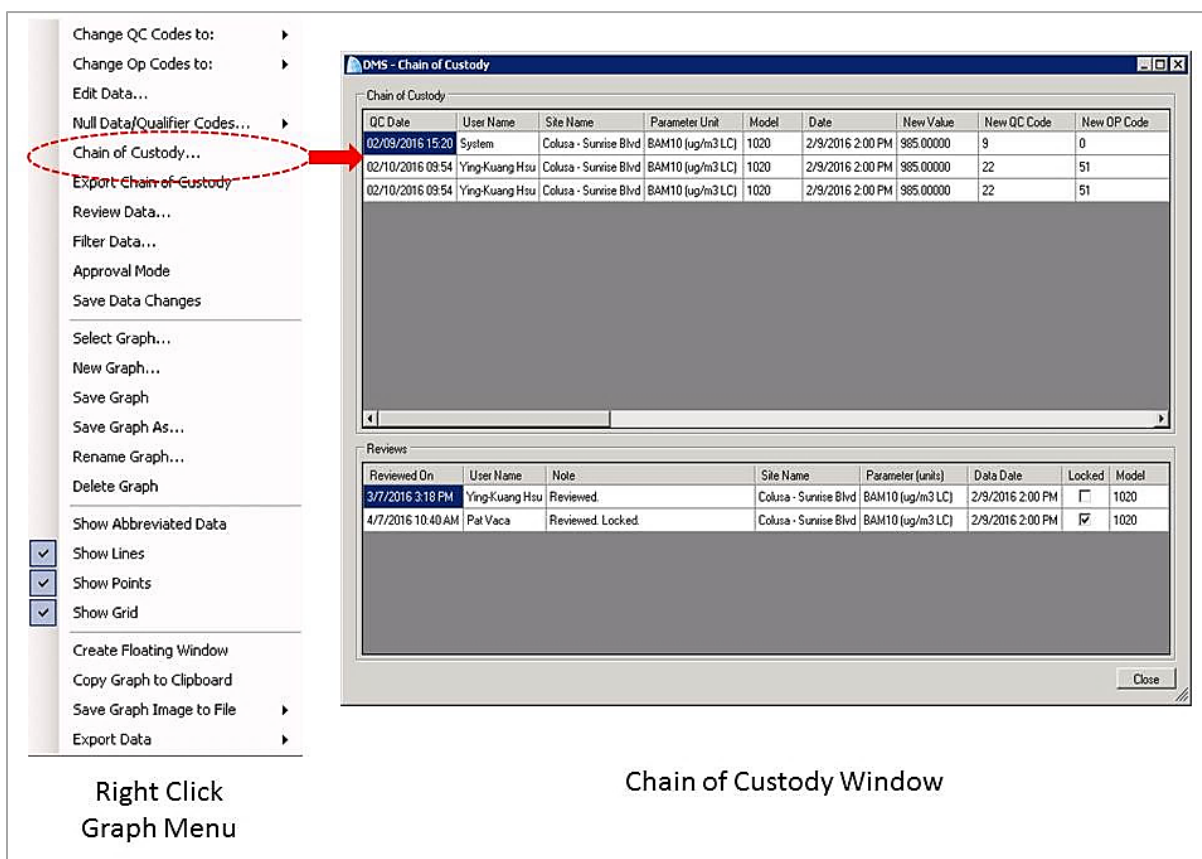

Figure 5.8. Getting to the Chain of Custody Window
1. The Chain of Custody window (refer to Figure 5.8 below) contains two boxes (Chain of Custody box and Review box). The entries in the Chain of Custody box indicate: